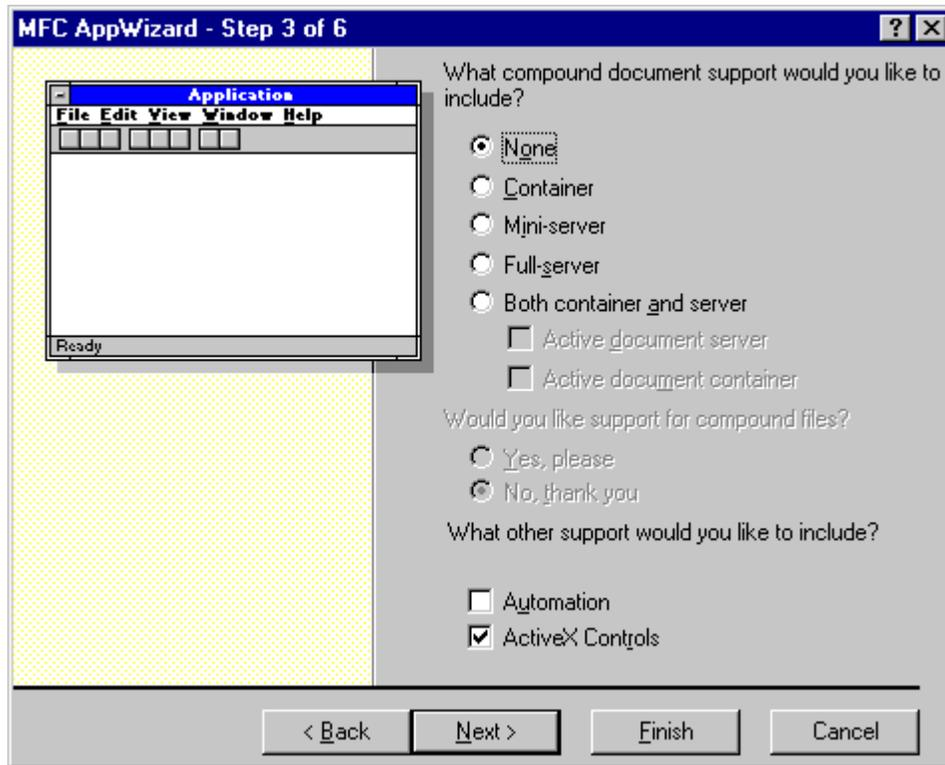

Figure 8 MFC AppWizard – Step 3
- The next dialog you will see is the MFC AppWizard – Step 3 of 6 dialog. You do not need to make any changes to the options in this dialog. It should look like the one in Figure 8. Push **Next**.